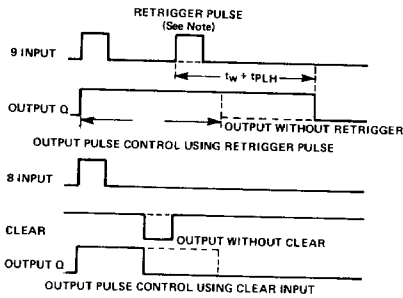

FIGURE 1—Typical Input/Output Pulses
The 'LS122 and 'LS123 multivibrators feature d-c triggering from gated low-level-active (A) and high-level-active (B) inputs, and also provide overriding direct clear inputs. Complementary outputs are provided. The retrigger capability simplifies the generation of output pulses of extremely long duration. By triggering the input before the output pulse is terminated, the output pulse may be extended. The overriding clear capability permits any output pulse to be terminated at a predetermined time independently of the timing components R and C. Enough Schmitt hysteresis is provided to ensure jitter-free triggering from the B inputs with transition rates as slow as 1 volt per second. Figure 1 illustrates triggering the one-shot with the high-level-active (B) inputs.